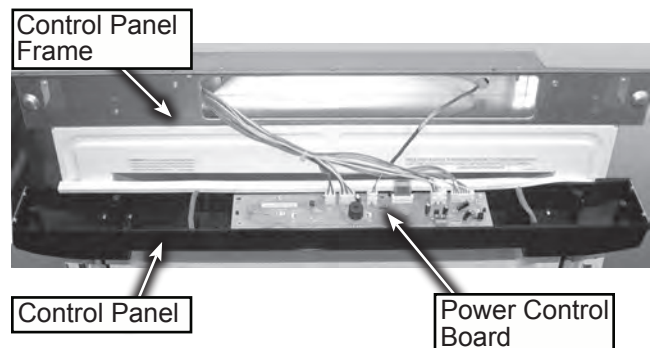

Figure 8
9. Unsnap the top control panel assembly from the frame and drop down to the front of the microwave, see figure 8.
10. Unplug all wires. The frame and Power Control Board can now be serviced, see figure 8.